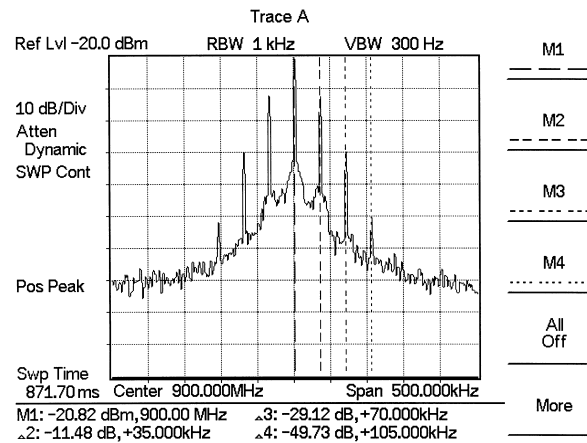

Figure 4-9. Frequency Modulation
- Step 8.** Repeat the above step with markers M3 and M4, selecting the delta functions for each marker. The side bands should be separated by 35 kHz, as shown by the delta values displayed at the bottom of the screen (Figure 4-9).